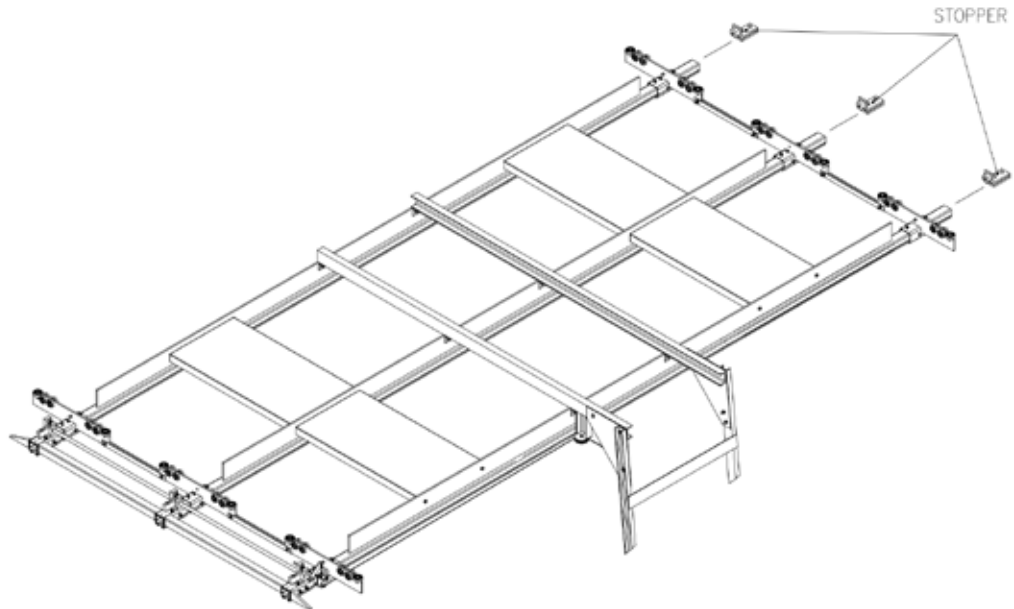

Fig. 51
Step 16 : For wagon cranes with interlock connections only on one side, stoppers must be positioned and secured at all free bridge profile ends, to ensure the trolleys remain inside the tracks. (fig. 51)